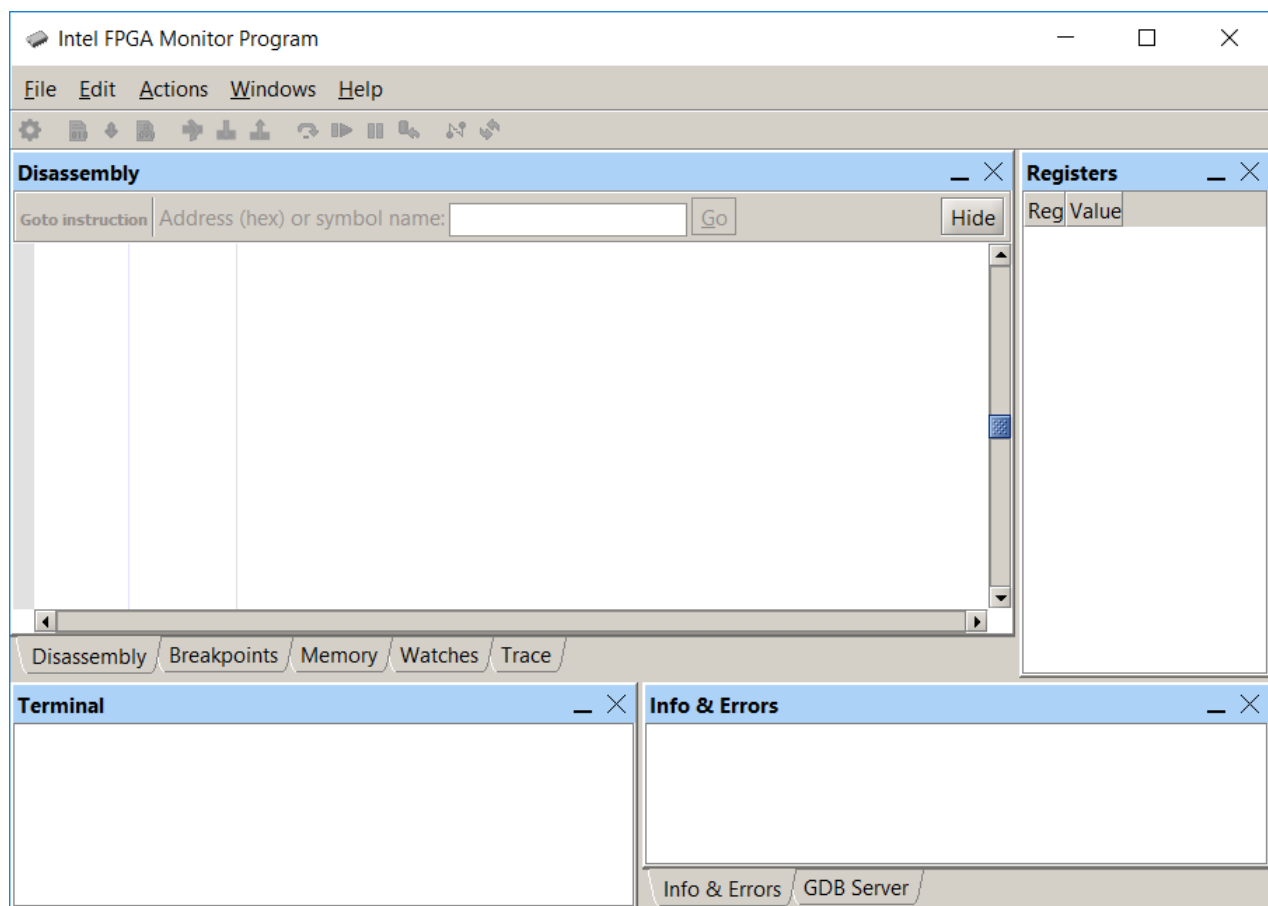

Figure 25. The Intel FPGA Monitor Program main window.
Open the Intel FPGA Monitor Program, which leads to the window in Figure 25.
9. Now, in the monitor window in Figure 25 select **Actions > Compile & Load** to assemble and download your program.